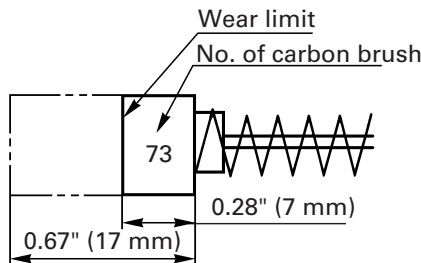

Fig. 18
4. Inspecting the carbon brushes: (Fig. 18)
NOTE: Use HITACHI carbon brush No.73 indicated in Fig. 18